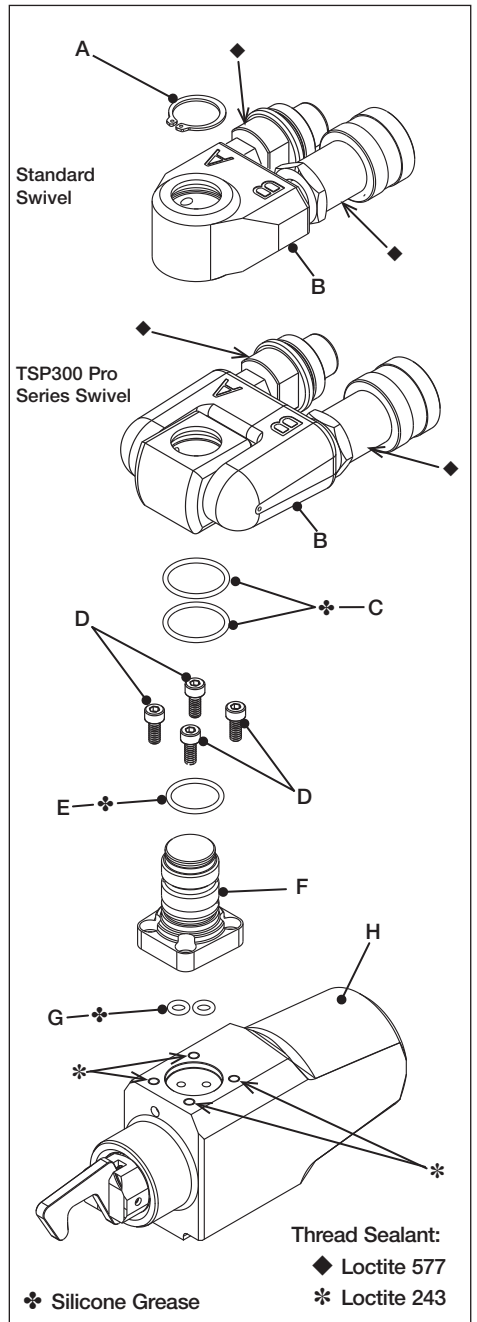

Fig. 16
5.3 Full Maintenance - Hydraulic Swivel and Drive Unit (Fig. 16, 17 and 19)
- Apply a small amount of Loctite 243 thread sealant to the threaded holes in the drive unit. See (*) in Figure 16 for locations.
- Install two O-rings (G) into the ports on the base of the swivel post (F).
- Place the swivel post (F) on the drive unit (H), making sure that hydraulic ports are aligned. Be careful that O-rings (G) do not drop out or become pinched or cut.
- Install the degreased socket head capscrews (D) and tighten them as follows: